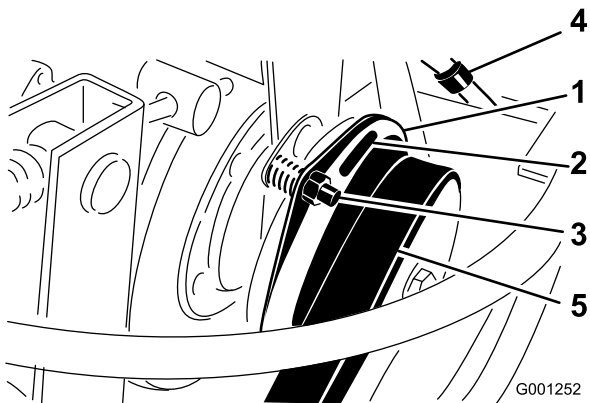

Figure 66
3. Adjust the air gap so that a 0.4 mm (0.015 inch) feeler gauge slides in between the clutch lining and friction plate with light pressure (Figure 66).
Note: You can decrease the gap by turning the adjusting nut clockwise (Figure 66). The maximum service gap is 0.7 mm (0.030 inch). Adjust all 3 air gaps.